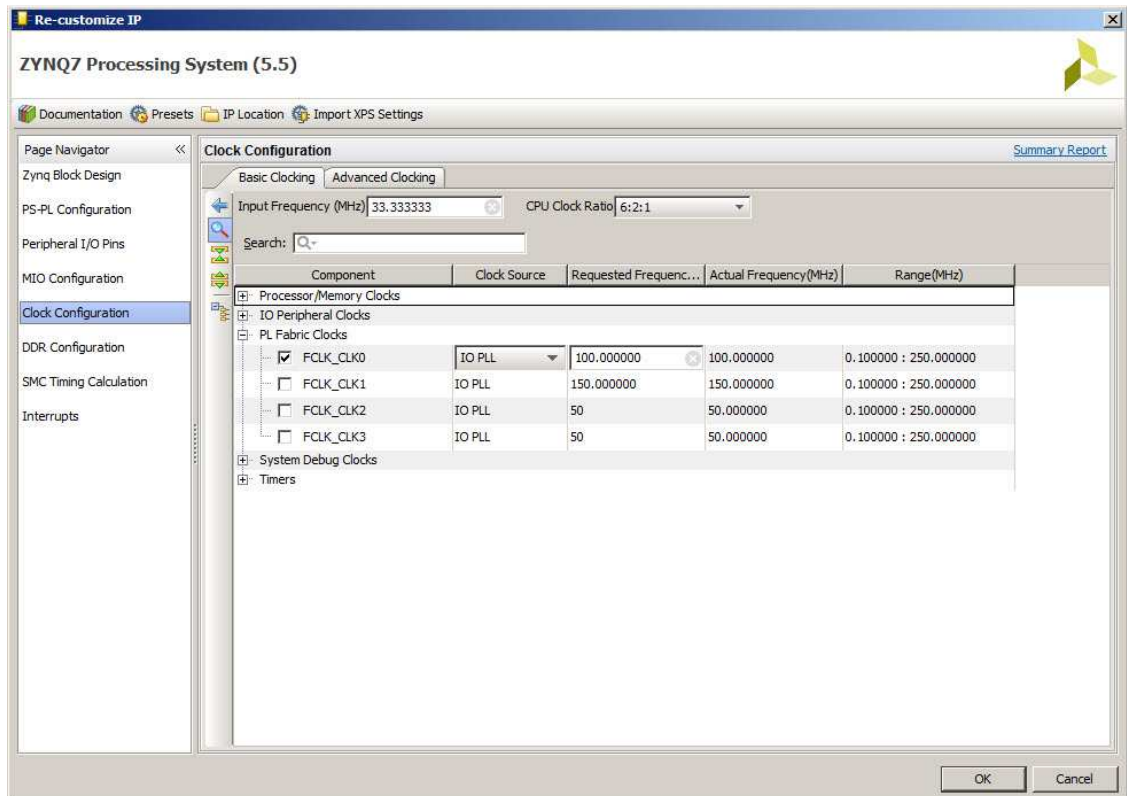

Figure 10: Clock Configuration
9. The Re-customize IP window will open as seen in **Figure 10**.